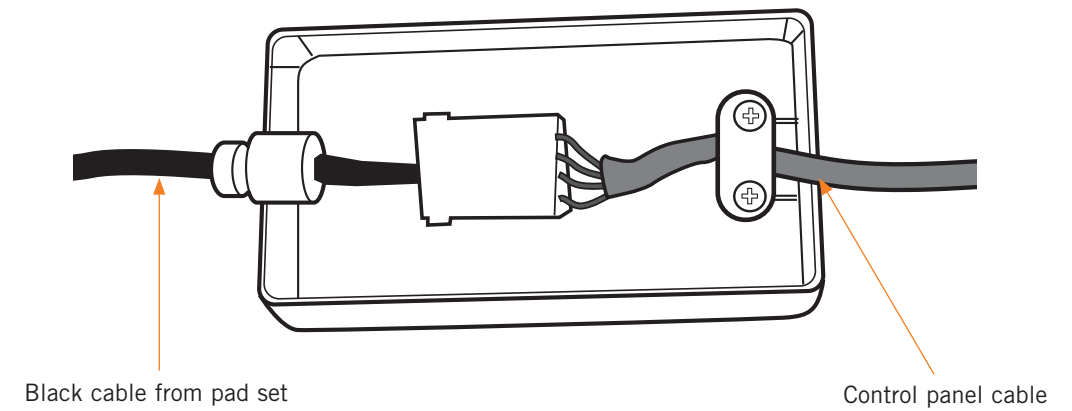

Fig.8
- 14. Connect the black cable coming from the pad set to the control panel cable (Fig.8).
- 15. Install the cable strain relief into the connector box slot, push it all the way down, then snap the connector box cover into place to secure it (Fig.8).